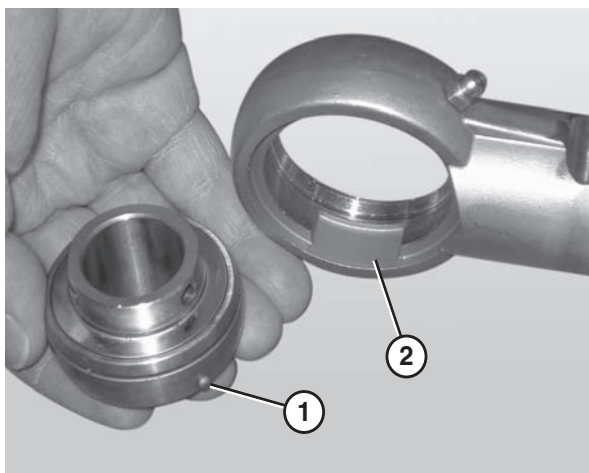

Figure 90
4. Remove the worn or damaged bearing (**Figure 90**).
When inserting the new bearing, make sure the anti-rotation notch (Figure 90, item 1) on the bearing lines up with the groove inside the housing (Figure 90, item 2).